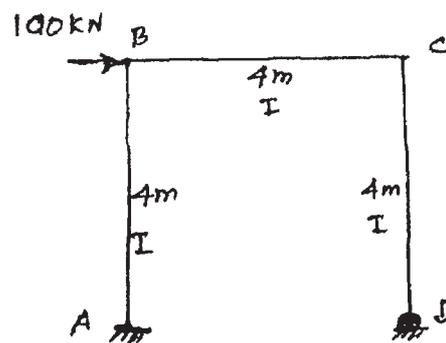

Fig. 3
- (b) Analyse the portal frame shown in Fig. 3 by flexibility method.